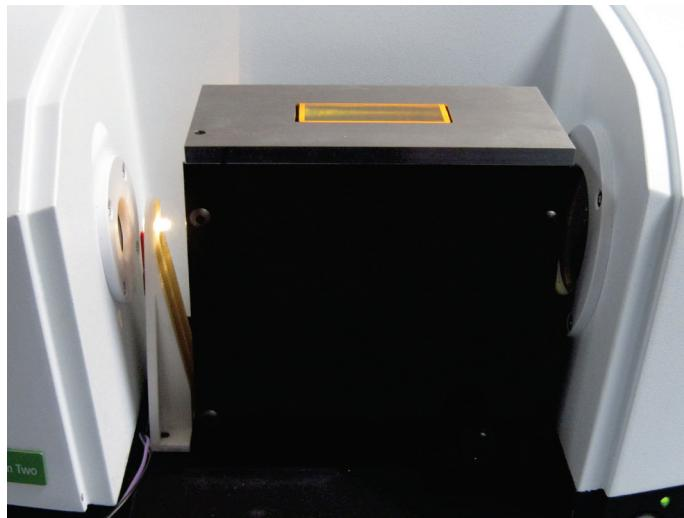

Figure 7 Alignment tool in position on the HATR baseplate
5. Insert the alignment tool in position on the baseplate (Figure 7).